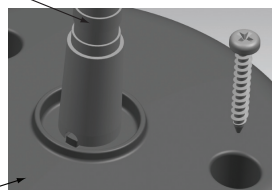

Figure 3
1. Place the metal Base Plate (2) and the Base Cover (3) together with the countersink in the Base Plate facing out.
2. Place the flat-head machine screw (1) through the Base Plate and Cover.
3. Screw the Flex Tube (4) to the Base Plate and cover, making sure the notch in the Flex Tube aligns with the ribs in the Base Cover as shown in Figure 3. Tighten firmly.
4. Place the Flex Tube Cover (5) over the Flex Tube.
5. Insert the elastic washer (6) in the threaded pin (7), located in the bottom part of the Cup (8).
7. Select the appropriate bar code label [Laser or Imager (9)], peel off the backing and affix to the recess in the Base Cover.